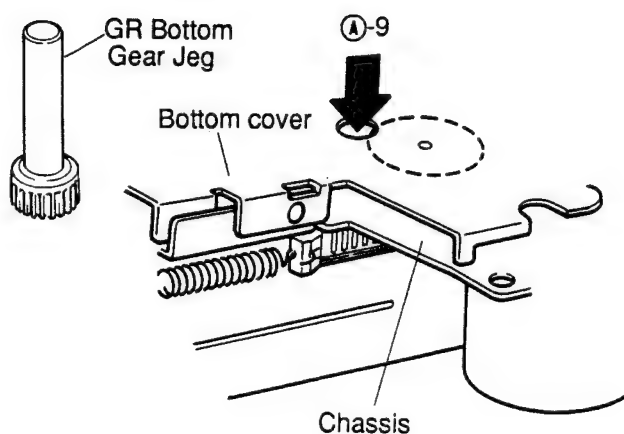

Figure 4
- (12) Since the hooks marked ①-8 will be lifted slightly as shown in Figure 4, insert the jig through the hole ①-9, and fix it turning the jig slightly.
(Refer to Figure 4 and 5.)
- (13) Fix the screws and the lock washer that have been removed.
- (14) Insert the jig into the hole ①-9 as shown in Figure and rotate the eject solenoid counterclockwise about 20 times, pulling it in the direction ①-10 with the finger. Then the eject operation is completed. Instead of operation (14), the eject operation can be performed by mounting the mechanism to the product. (Refer to Figures 4 and 5.)